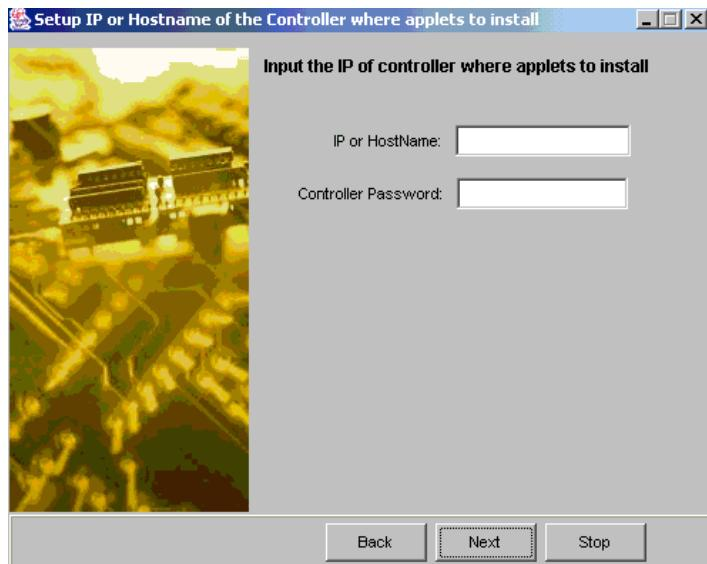

Figure 3-13: Input IP and Controller Password
Step 1. As shown in *Figure 3-13* above, enter the IP address or the host name of the controller/subsystem and the controller password in their respective fields. The default for the controller/subsystem IP or password is blank. The preset IP and password should have been configured along with other configuration utilities before proceeding with the RAIDWatch installation.
Step 2. If the *Next* button from *Figure 3-13* was selected, the Install Active window shown in *Figure 3-14* will appear. If you wish to stop the installation procedure, then click the *Cancel* button. If you wish to continue installing the Applet components, allow the installation shield to continue through the rest of the procedure.
Step 4. If you wish to immediately access the RAIDWatch manager, open a web browser and type in the IP address that you used in *Figure 3-13*.
where **www.xxx.yyy.zzz** is the IP address entered in *Figure 3-13*.